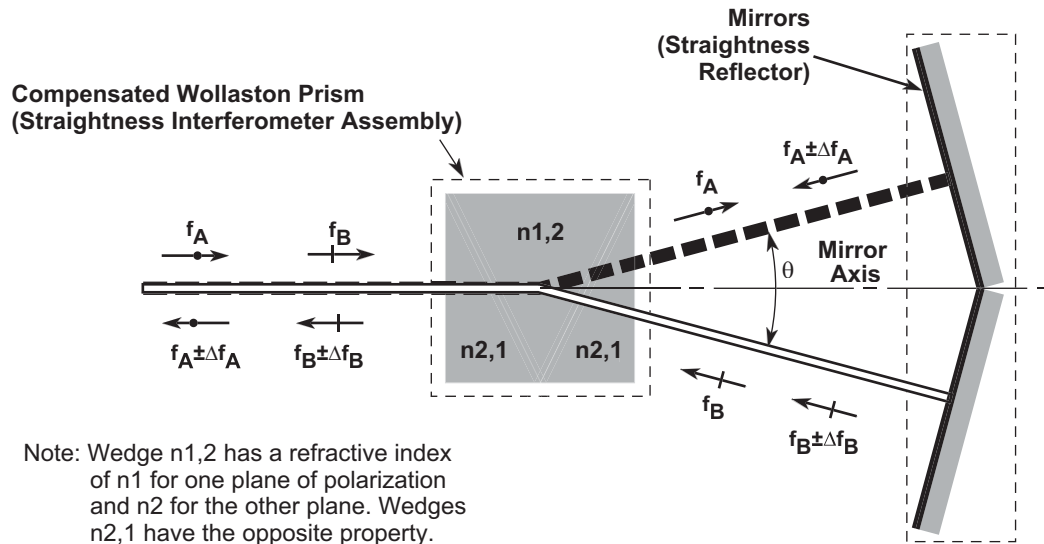

Figure 211 Straightness optics — beam paths
Figure 211 shows the laser beam path in the straightness optics.
- 3 Align the Straightness Reflector so that its mirror axis (see Figure 211) is parallel to the laser beam and axis of travel. This mirror axis forms the optical straight-edge (analogous to traditional straight-edge).